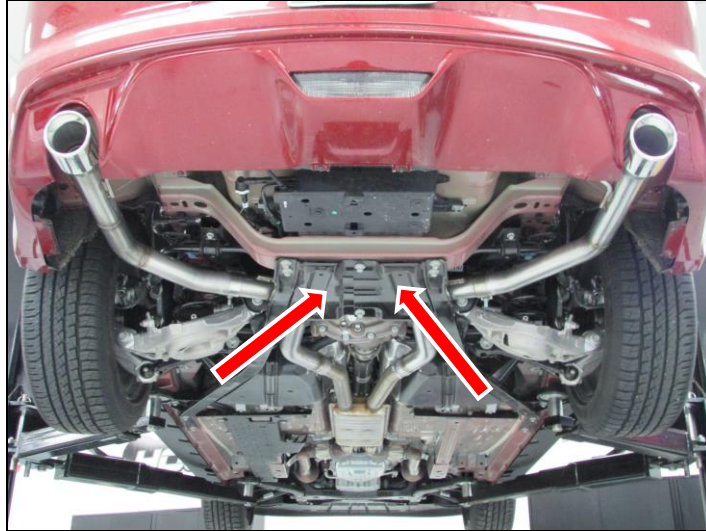

Figure 1
4. If the vehicle is a convertible, remove the chassis cross brace (**Figure 1**).